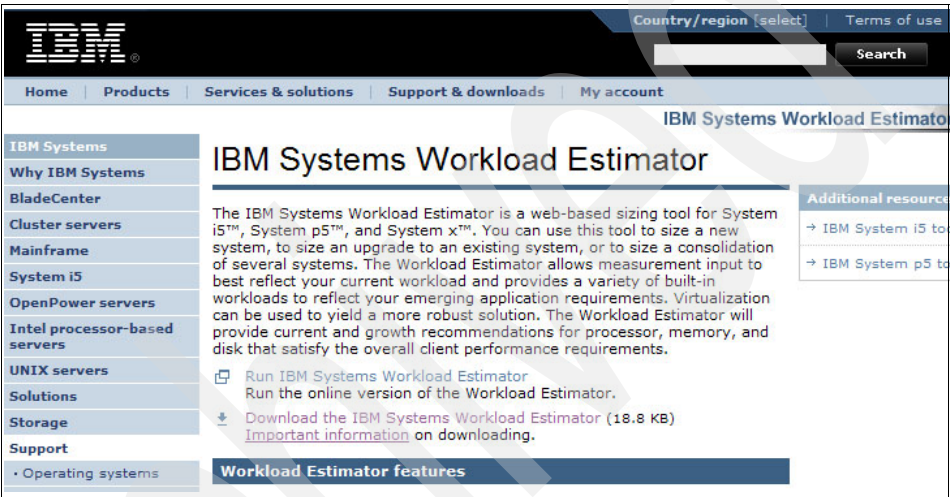

Figure B-1 IBM Workload Estimator home page
2. The WLE home page is shown in Figure B-1. Use the link shown in the browser window to start the WLE download. Follow the on-screen instructions.